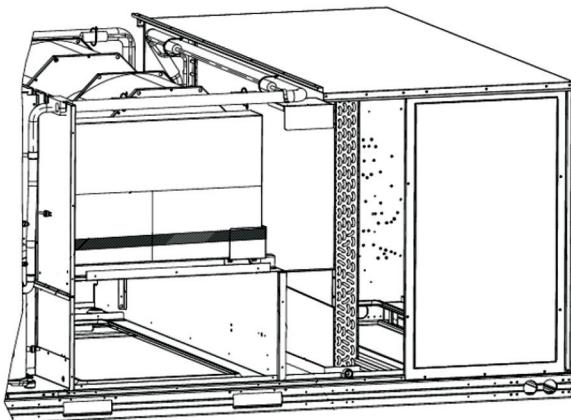

Fig. 18 — Barometric Hood Box Parts Location
2. Remove the side panels located in the hood parts box (see Fig. 18).